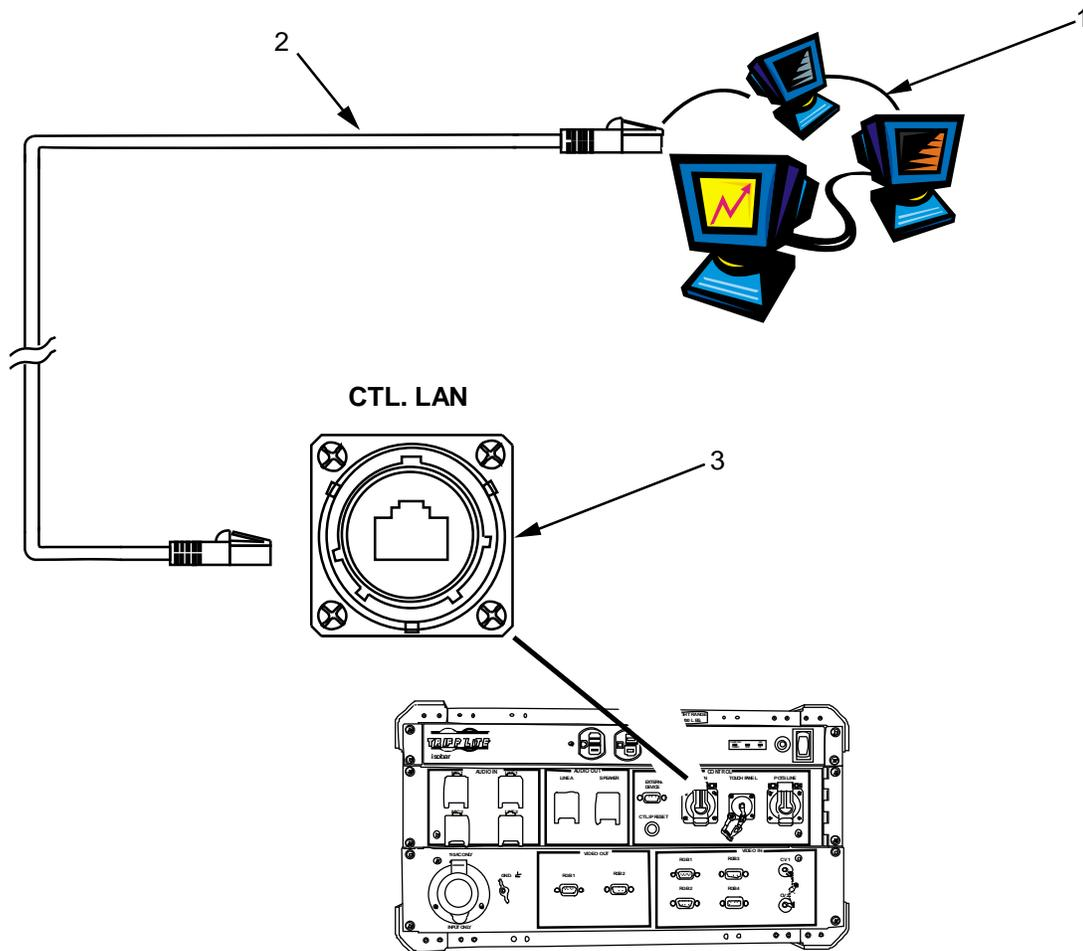

Figure 10. Connect Local Area Network (LAN) Device to AVCS (MINI) System.
1. Locate the LAN cable (Figure 10, Item 2) in the Ancillary Case to connect the AVCS system (Figure 10, Item 3) to a local area network (Figure 10, Item 1). Once connected to the local network, the AVCS system can be controlled through a computer running Internet Explorer.